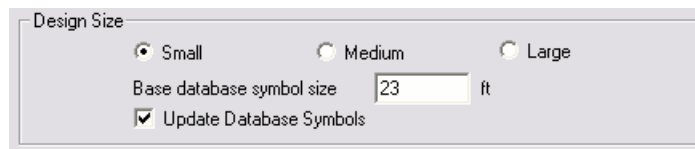

Figure 4-52
3. Go to the Misc. tab and select the Medium design size as in Figure 4-52. Change the “Base Database Symbol Size” to **23 (7)**. This determines the size of the symbols according to the size of the design. Enter your name in the “Designer” field. When you are finished click **[OK]**.